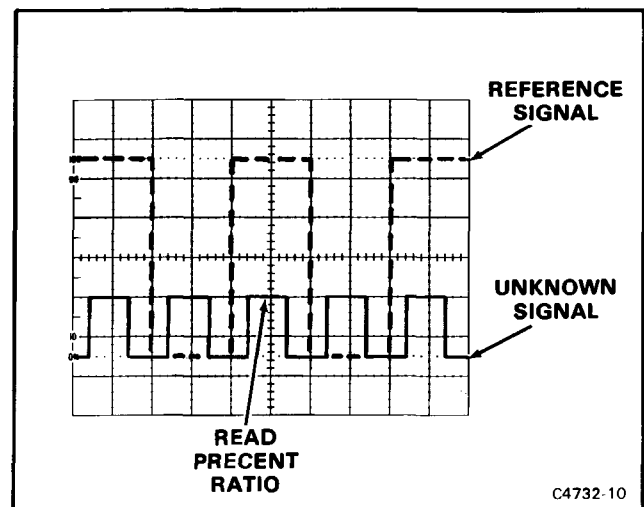

Figure 4-4. Voltage ratios.
5. Horizontally position the waveform so that its top most features cross the center vertical graticule line (see Figure 4-4).